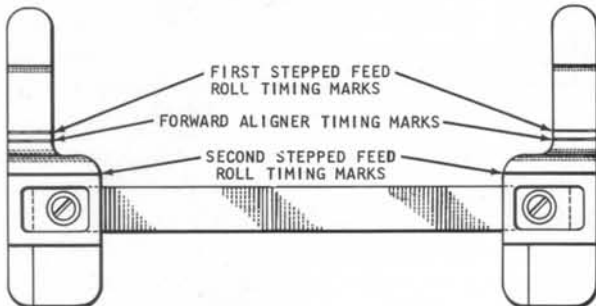
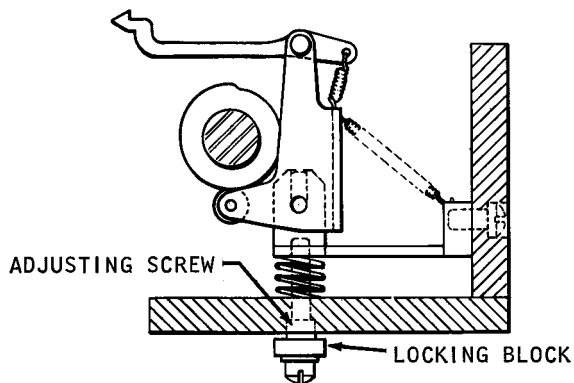

Figure 37. Gage 608183
Figure 39. Forward Aligner Adjustment
7. Continue turning with the clutch engaged until the machine index is at  $339^\circ \pm 1^\circ$ . At this time the leading edge of the card should not have moved past the "first stepped feed roll timing marks" on the gage (Figure 37).
8. Continue turning the machine and check to see that the card finishes forward aligning to within .005" of the "forward aligner timing marks" on the gage at  $351^\circ$  (Figure 37). This second check makes certain that the card is properly aligned at the time the intermittent roll closes.
6. Adjust the forward aligners to position the card evenly within .005" of the "forward aligner timing marks" on the gage (Figure 37). Adjust each forward aligner by loosening the screws in the locking block just enough to allow turning the adjusting screw with an Allen wrench (Figure 39). The locking block serves as a support for the adjusting screw and adjustment cannot be made accurately if the block is loosened too much.
5. The leading edge of the card should coincide within .005" of the "second stepped feed roll timing marks" on the gage (Figure 37).